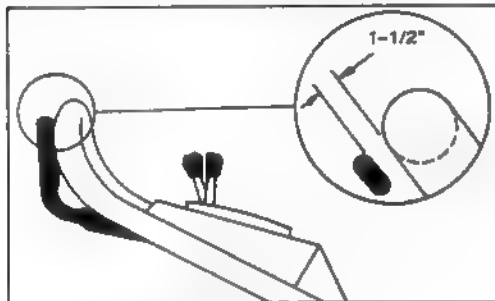

Figure 20
3. **CHECK ADJUSTMENT** – Slowly pull mower backwards while control bar is gradually moved toward handle. Adjustment is correct when rear wheels stop turning and control bar is about 1 inch from handle (Fig. 20).